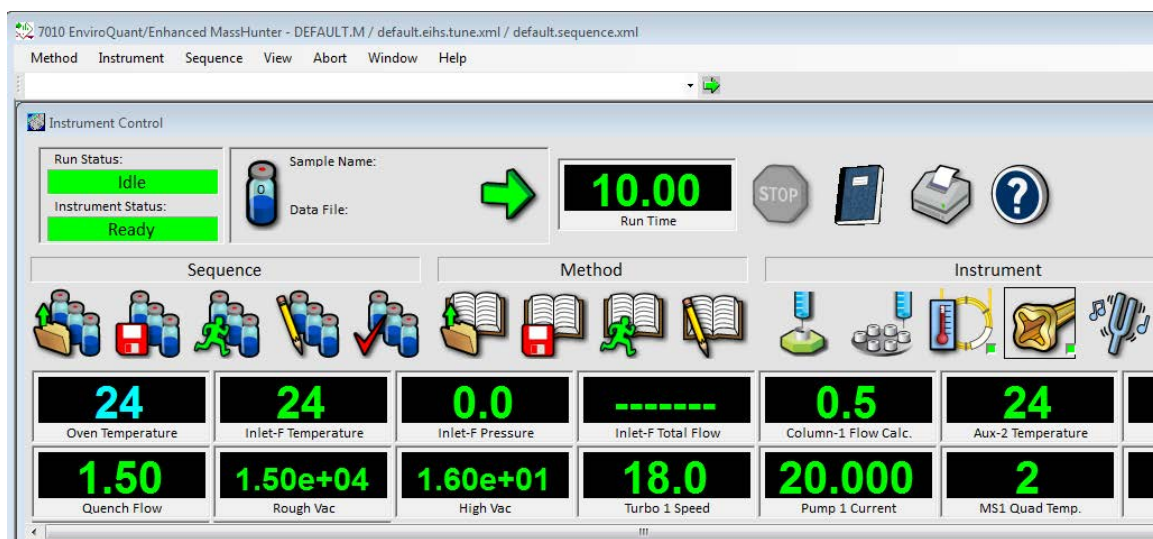

Figure 27. Arranging monitors
- 10 If needed, select **Window > Arrange Monitors**, or click and drag each monitor to the desired position. See Figure 27 for one way of arranging the monitors.